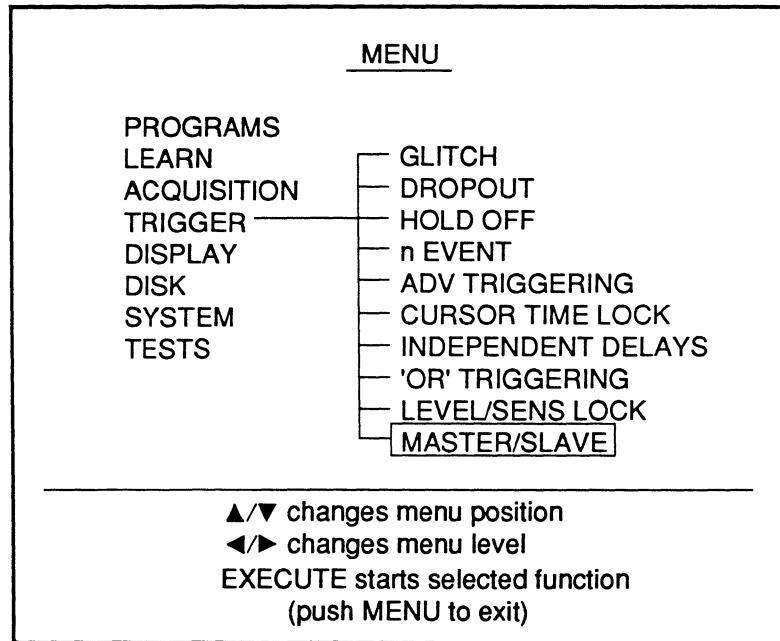

Figure 1 - Master/Slave
1. Connect the Systems in series as shown in Figure 1.